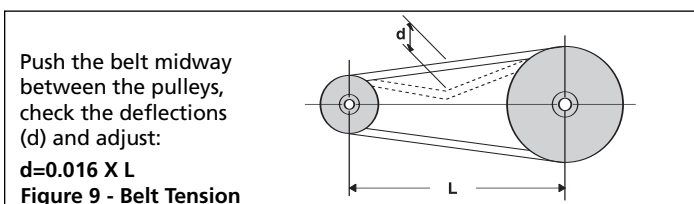

Figure 9 - Belt Tension
2. Mount pulleys as close to the pump and motor engine shaft bearings as possible. Check alignment with a straight edge as shown in Figure 9. Make sure the belt is properly adjusted. Too much tension will cause bearing failure and too little tension will result in belt slippage (See Figure 9). Check with the belt and pulley suppliers for specific information and recommendations.